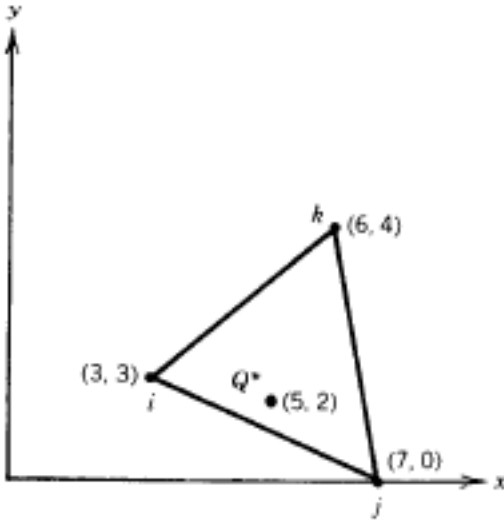

Figure P7.11
11. A line source $Q^* = 52 \text{ W/cm}$ is located at (5,2) in the element shown in **Figure P7.11**. Determine the Q^* allocated to each node.